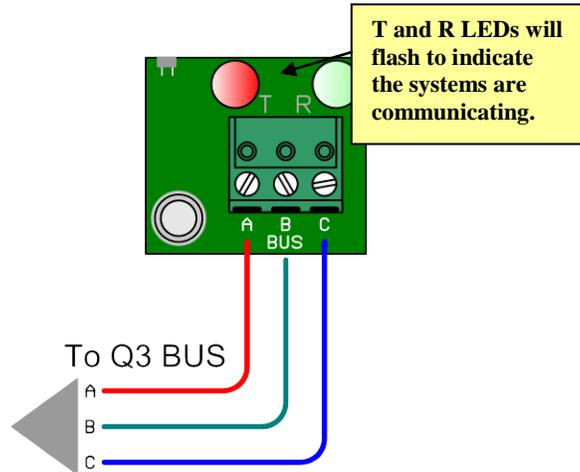

Figure 9: RTU BUS Connection
Step 1: Connect the A, B and C BUS connections on the RTU to the A, B and C BUS connections on the Q3 or ESB. Daisy-chain these connections to all RTU modules in the facility. **Note:** Once the BUS is enabled, the T and R LEDs will flash (red/green) when the systems are communicating (Figure 9).